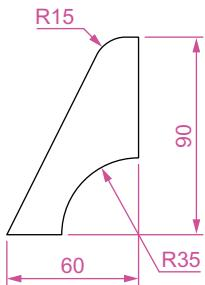

Fig. 17.12 Third example **UCS** – outline for 3D model
3. Construct the outline (Fig 17.12) and extrude to a height of **120**.